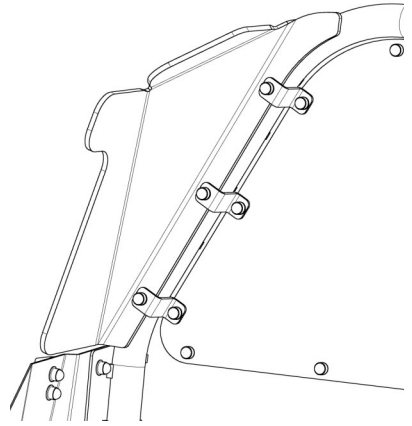

Figure 17
1. Locate the P1300 Partition Wing, the (3) Wing Brackets [3WIN000000], (6) [3X61] 1/4-20X3/4" carriage bolts, and (6) [3X16SZ] small whiz nuts.
2. Put the long flange of the Wing Brackets against the front face of the Wing and install (3) of the carriage bolts from the wing side with (3) corresponding whiz nuts against the brackets. Tighten down the nuts to pull the carriage bolts into the wing and then loosen the nuts so that the brackets are able to move.
3. Place the short flange of the Wing Brackets against the Partition window and align the holes in the brackets with the (3) missing fasteners in the window. Insert the (3) remaining carriage bolts from the back side of the partition and loosely secure the Wing in place with whiz nuts against the Wing Brackets. The Wing will be adjusted and tightened in a later section. Figure 17 shows the installed wing.
4. Locate the OSB Park Buckle [3OSB000001 or 3OSB109RP-1 for retractable belts], (2) [3X36] carriage bolts, and (2) [3X16Z] whiz nuts.
5. Position the Park Buckle in the desired location on the Partition Mounting Plate and mark (2) holes locations.